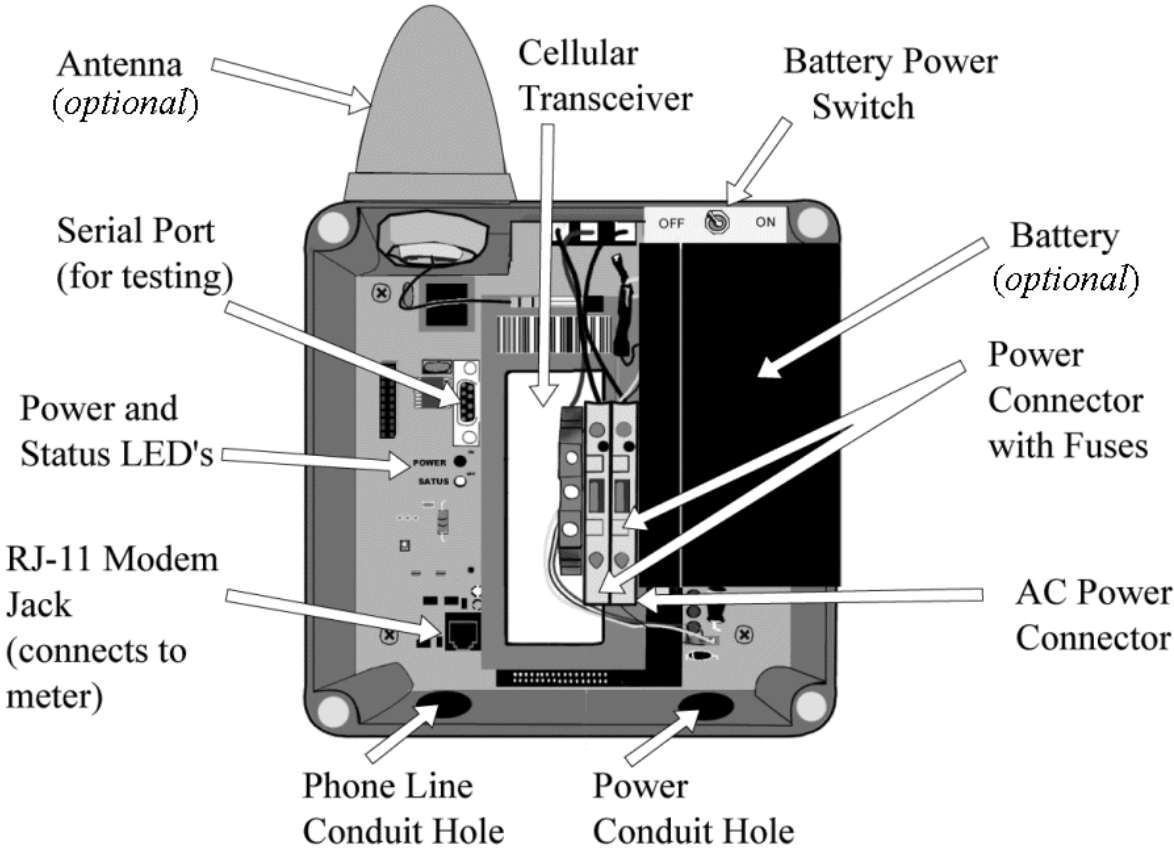

Figure 1-1. OMEGA
Figure 1-1 shows the hardware features of OMEGA. The Battery and Battery Power Switch are options that can be ordered from Telenetics.
1. Lift the AC fuse connector to turn off AC power to OMEGA (see Figure 1-1 on page 13). Do not close this AC fuse connector when connecting the input voltage source.
2. If the OMEGA 8-Port Line-Sharing Module is not installed, connect the cable to the single RJ-11 jack located near the conduit hole (see Figure 1-1 on page 13). Otherwise, refer to the *OMEGA 8-Port Line-Sharing Module Quick Start Guide* (Telenetics part number 0049-0706-001).
1. Before applying power to OMEGA set the Power Battery switch to the OFF position and lift the AC fuse connector (see Figure 1-1 on page 13).
4. Close the AC fuse connector and move the Battery Power switch to the ON position (see Figure 1-1 on page 13).
2. Connect a standard telephone to the OMEGA RJ-11 modem jack. This jack is located on the side opposite the cellular transceiver connector (see Figure 1-1 on page 13).